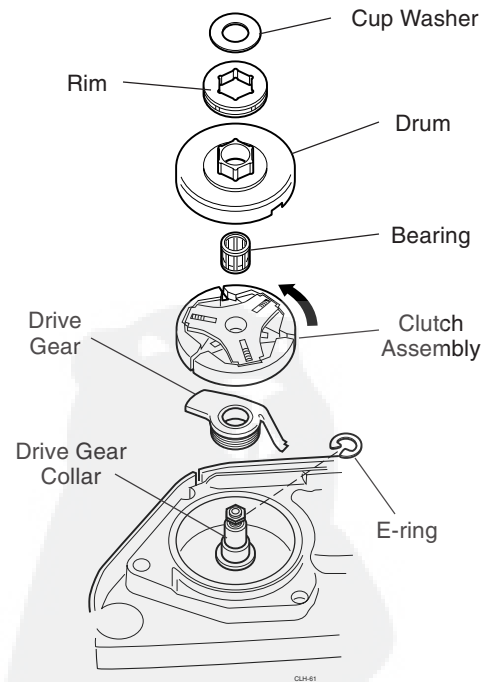

Figure 6.25 757 Clutch Assembly Installation
STEP 3. Use a plastic piston stop or length of starter rope to lock the engine crankshaft (see Removal, page 62), and then thread the clutch onto the crankshaft by turning in a counter clockwise rotation (Figure 6.25).